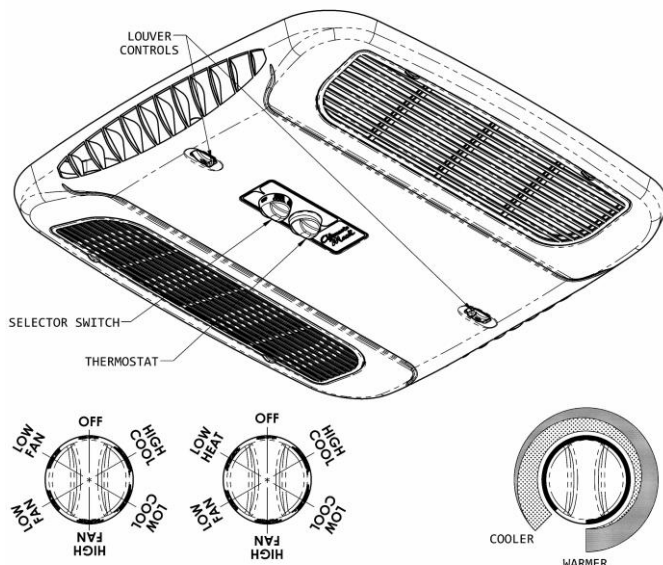

Figure 1
- A. **The Selector Switch** – The selector switch determines which mode of operation the air conditioner will be in. By rotating the selector switch, the operator can obtain any system function desired. System functions vary depending upon options of both the roof top unit and ceiling assembly. Figure 1 shows selector switch location and lists all available functions by model.
- B. **The Thermostat (temperature control)** – In the cooling mode, the thermostat regulates the "ON" and "OFF" temperature setting at which the compressor will operate. For "Heat/Cool" models, the thermostat also controls the "ON" and "OFF" temperature settings of the heater assembly (See Figure 1).
I. For Cooling (Refer to Figure 1, page 8).
IV. For Heating ("Elect-A-Heat" Ceiling Assembly Model Only) Refer to Figure 1, page 8).
V. For Air Circulation Only (Refer to Figure 1, page 8).